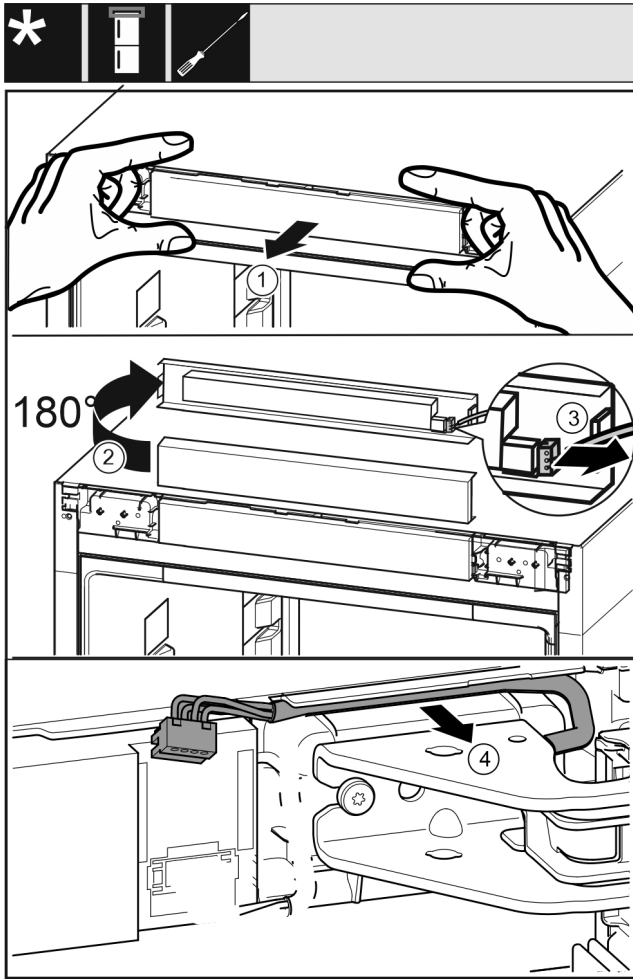

Fig. 21
- ▶ Carefully release the control panel trim Fig. 21 (1) forwards.
- ▶ Turn the control panel trim Fig. 21 (2) upwards by 180°.
- ▶ Push the locking tab Fig. 21 (3) backwards and remove the plug carefully.
- ▶ Release the cable over the swap bearing block Fig. 21 (4) from the guide carefully.